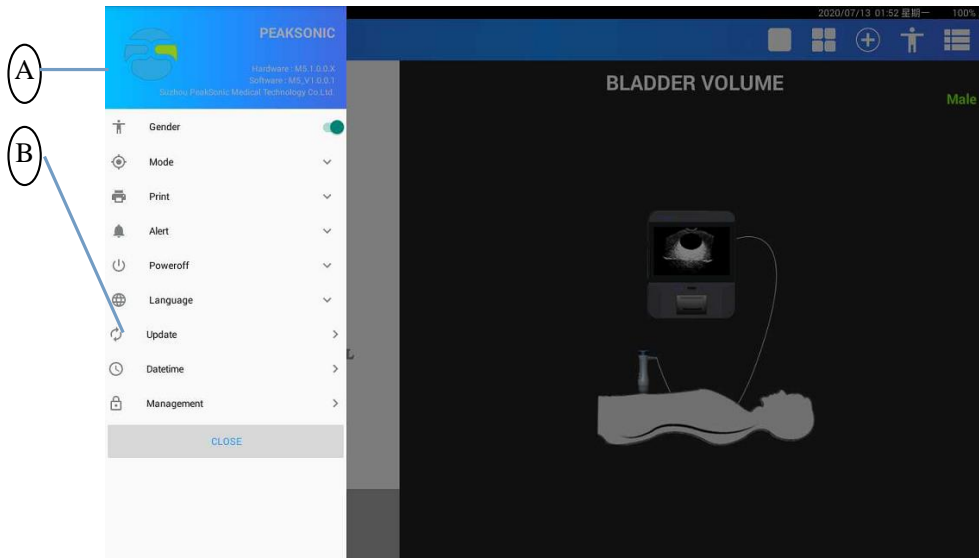

Figure 1 M5 System Setting Interface
Step 1. Enter system setting interface (Figure 1). Continuously tap  for six times to activate automatic calibration which is below "Language" in the menu. Automatic calibration is not available for normal users but only for engineering team. Ten minutes after the automatic calibration is activated, it will be automatically shut down.